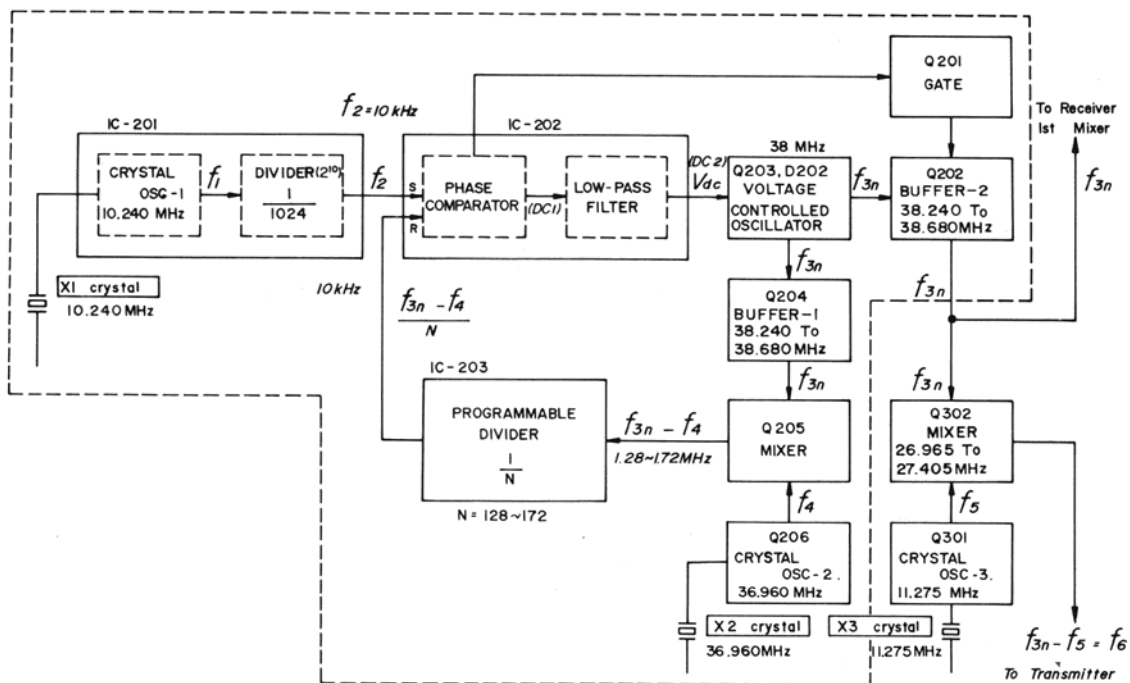

Figure 2 P.L.L. CIRCUIT FREQUENCY SYNTHESIZER
A DESCRIPTION OF PHASE-LOCKED-LOOP (P.L.L.) CIRCUIT (Figure 2)
IC-202, the voltage controlled oscillator (or V.C.O.) Q203, the buffer amplifier Q204, the mixer Q205 and the programmable divider IC-203 as shown in Figure 2.
3) **Frequency Determining** (Refer to Figure 2)